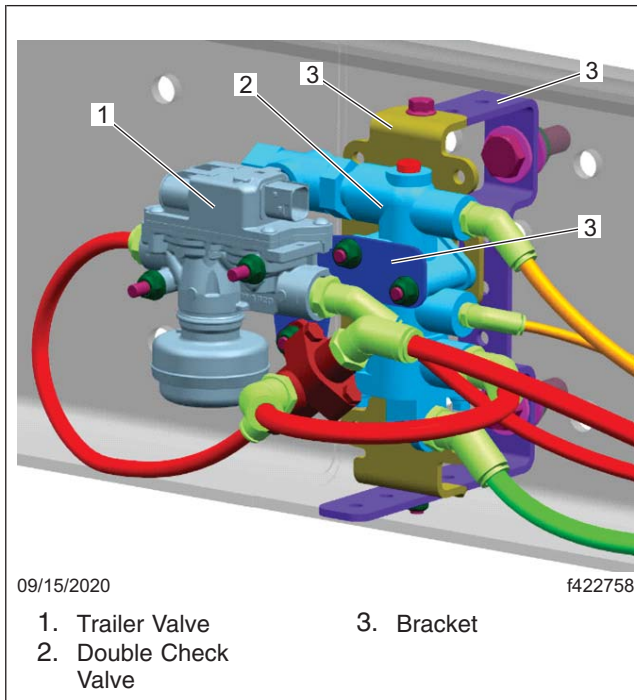

Fig. 20, Trailer Valve Assembly
5. Remove the trailer valve assembly, including the brackets and double check valve. See Fig. 20.